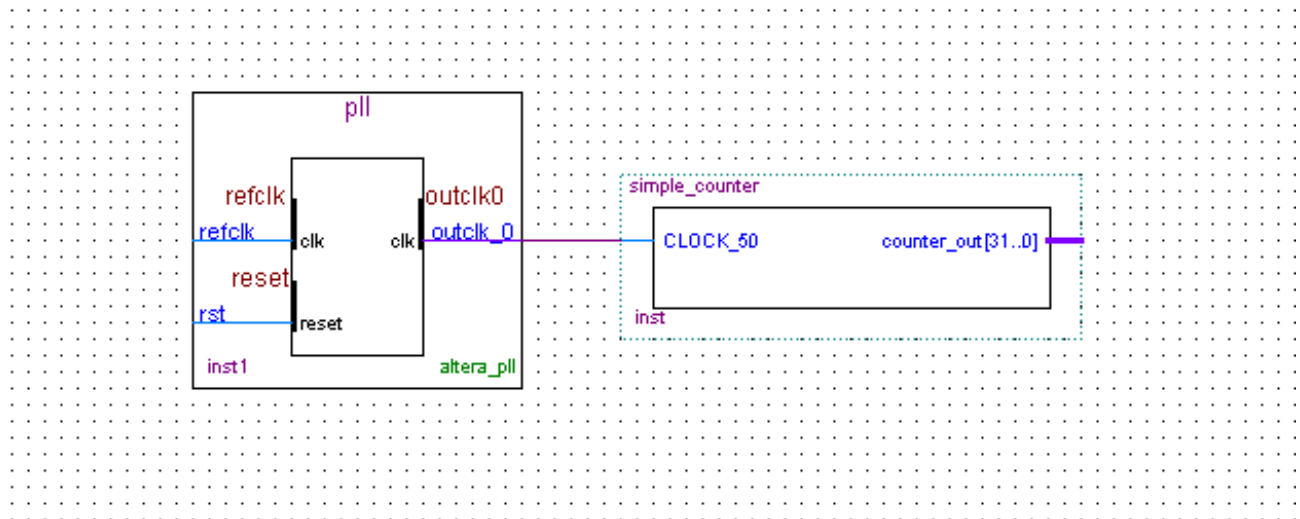

Figure 3-15 Draw a Bus Line connect pll outclk_0 port to simple_counter CLOCK_50 port
13. Click and drag a bus line from the outclk_0 output to the simple_counter clock input. This action ties the pll output to the simple_counter input (see **Figure 3-15**).